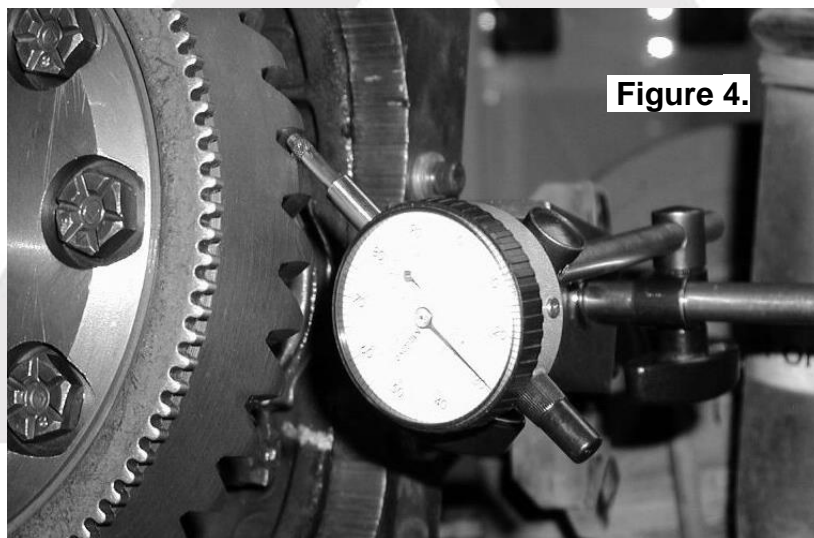

Figure 4.
- Set a plunge type dial indicator on one of the ring gear teeth as in Figure 4.